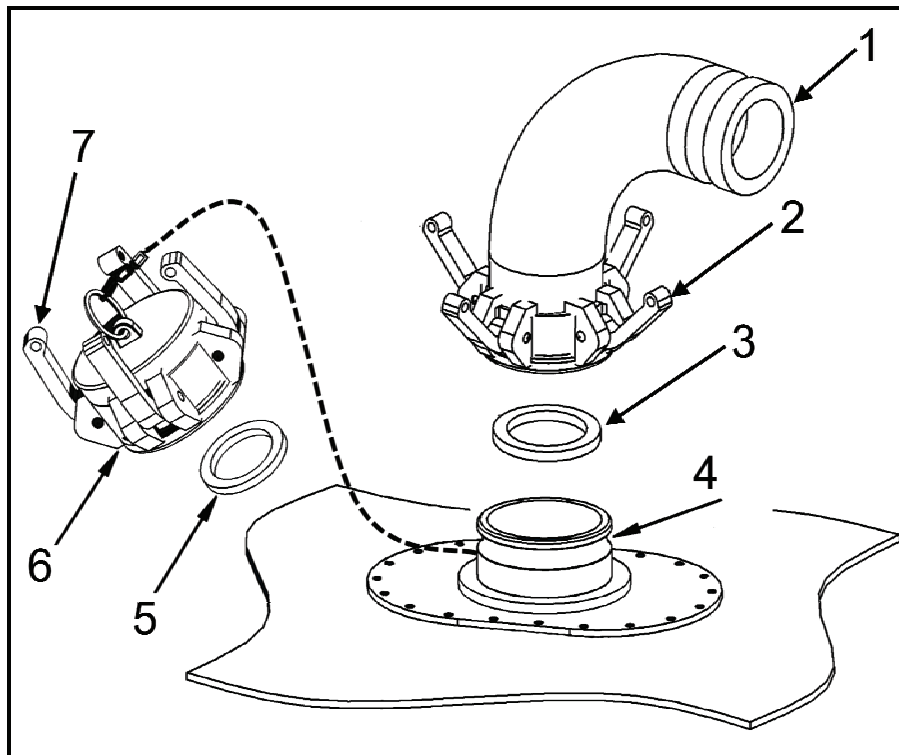

Figure 1. Fill/Discharge Assembly
1. Remove elbow (Figure 1, Item 1) or dust cap (Figure 1, Item 6) by pulling outward on cam lock arms (Figure 1, Item 2), and lifting elbow or dust cap from flanged adapter (Figure 1, Item 4).
2. Remove gasket (Figure 1, Item 3) from elbow (Figure 1, Item 1) and gasket (Figure 1, Item 5) from dust cap (Figure 1, Item 6). Discard gaskets.
1. Install new gasket (Figure 1, Item 3) into elbow (Figure 1, Item 1) and new gasket (Figure 1, Item 5) in dust cap (Figure 1, Item 6).
2. Install elbow (Figure 1, Item 1) onto flanged adapter (Figure 1, Item 4), by pushing inward on cam lock arms (Figure 1, Item 2) to lock elbow into position.
3. Install the dust cap (Figure 1, Item 6) onto the elbow (Figure 1, Item 1) by pushing inward on the cam lock arms on dust cap (Figure 1, Item 7) to lock into position.